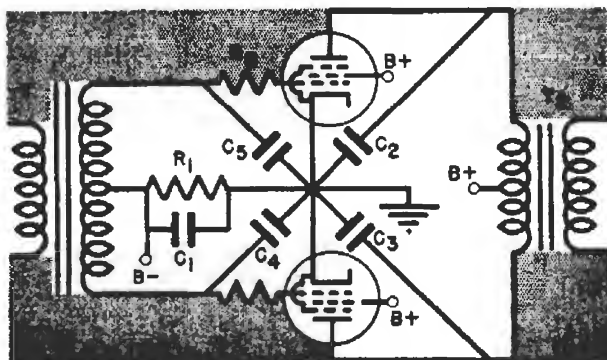

FIG. 24. Here are pictured the cures for parasitic oscillation in an output stage.
for parasitics is to insert suppressor resistors right at the grid terminals of each tube, as shown in Fig. 24. Resistors R_2 and R_3 should be between 100 and 1000 ohms. Use the smallest size which will eliminate oscillation.
bypass paths from the plates run through condensers C_2 and C_3 to $B+$, from $B+$ to $B-$ by way of the output filter condenser, and then to the cathode through condenser C_1 . Bringing C_2 and C_3 directly to the cathode, as shown in Fig. 24, eliminates a great deal of this path, and so makes parasitic oscillations less likely. If C_2 and C_3 are used in this manner, they must have voltage ratings of 600 volts or higher.
► As an additional measure, grid condensers of about .0005 mfd. each can be installed to change the grid resonant frequency, as shown by C_4 and C_5 in Fig. 24. (Sometimes they are installed by the manufacturer.) If used, C_4 and C_5 should return to the same cathode point as C_2 and C_3 .